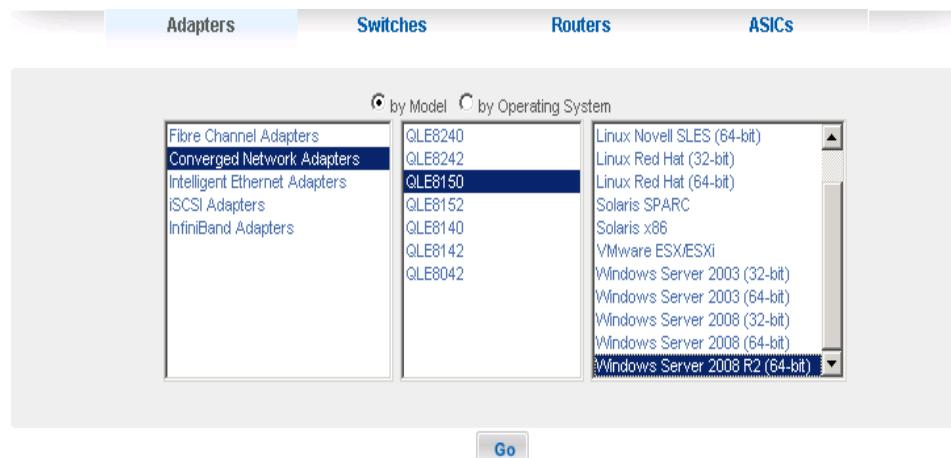

Figure 3-45. Select an Adapter and a Windows Operating System
6. In the third column, click the version of the Microsoft Windows operating system that is installed on the server. For example, in **Figure 3-45, Windows Server 2008 R2 (64-bit)** is selected for a QLE8152 adapter.